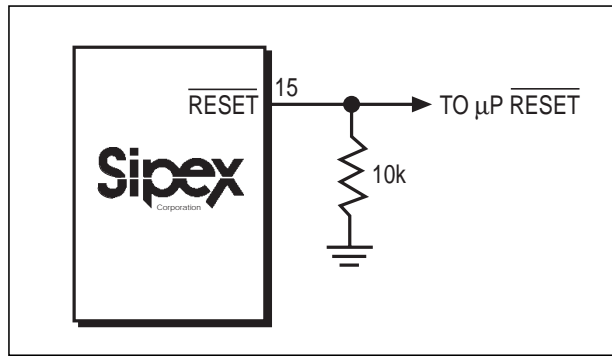

Figure 4. Adding an external pull-down resistor ensures $\overline{\text{RESET}}$ is valid with V_{CC} down to GND .
1.6mA at $V_{OUT} - 0.5\text{V}$. When no backup battery is used, $\overline{\text{RESET}}$ output is valid down to $V_{CC} = 1\text{V}$, and an external $10\text{k}\Omega$ pull-down resistor on $\overline{\text{RESET}}$ ensures that $\overline{\text{RESET}}$ will be valid with V_{CC} down to GND as shown on Figure 4. As V_{CC} goes below 1V , the gate drive to the $\overline{\text{RESET}}$ output switch reduces accordingly, increasing the $r_{DS(ON)}$ and the saturation voltage. The $10\text{k}\Omega$ pull-down resistor ensures the parallel combination of switch and external resistor is $10\text{k}\Omega$ and the output saturation voltage is below 0.4V , while sinking $40\mu\text{A}$. When using a $10\text{k}\Omega$ external pull-down resistor, the high state for the $\overline{\text{RESET}}$ output with $V_{CC} = 4.75\text{V}$ is 4.5V typical. For battery voltages greater than or equal to 2V , $\overline{\text{RESET}}$ remains valid for V_{CC} between 0V and 5.5V . $\overline{\text{RESET}}$ will be asserted during the following conditions: